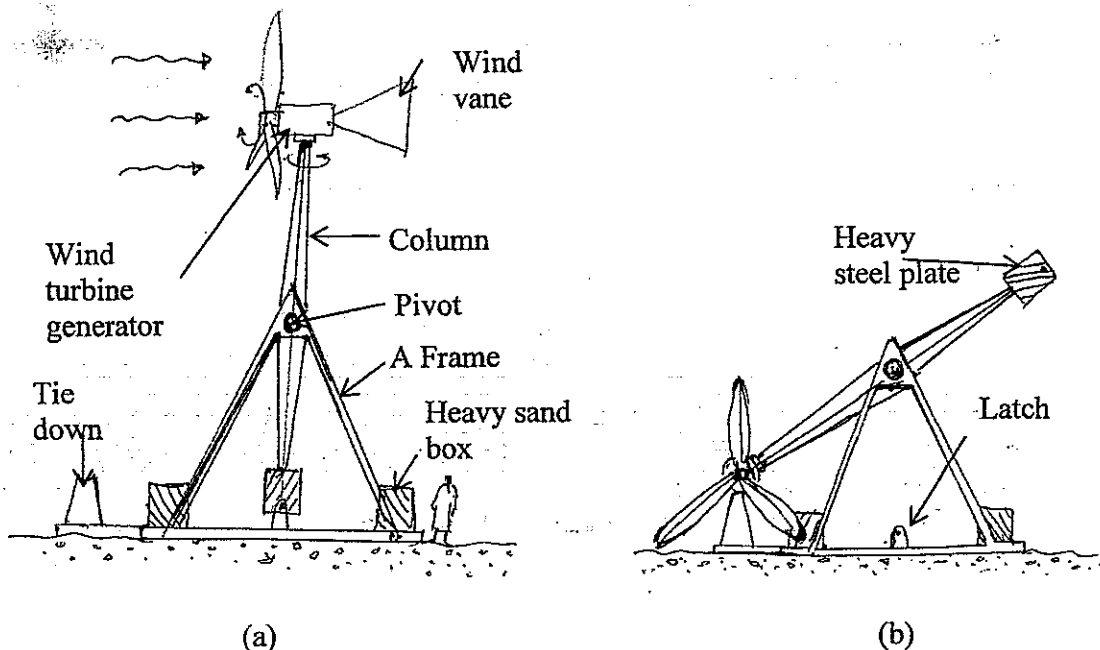

Figure 2: Wind turbine for remote tropical island communities (a) upright and (b) lowered.
- (b) Since the islands are off-grid in 1(a), the NGO need to provide electrical power for the machine in question 1(a). They turn to renewable energy solutions as the remote islands happen to be endowed with strong breezes. They plan to extract wind energy using wind turbines which have to be low cost and also easily protected from the destructive tropical hurricanes that frequently sweep through the islands. The simple design they produced is shown in sketch in Figure 2 which is a horizontal axis turbine capable of being lowered and tied down at ground level during maintenance and during hurricanes. This design used a number of embodiment design principles. Point out as many as possible and describe which principle is utilized and justify with reasons. (5 marks)